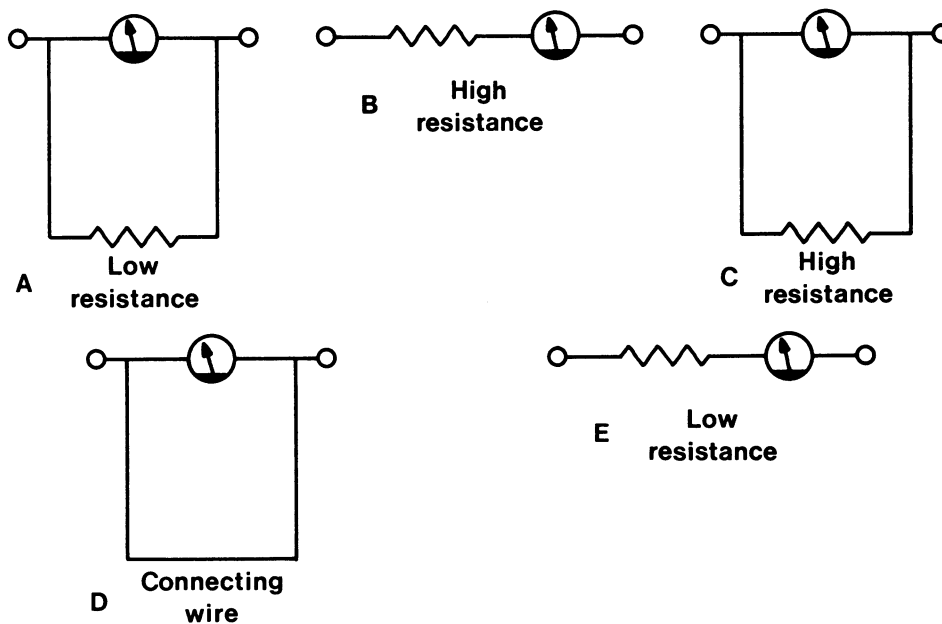

FIG. 3.18
14. Which of the arrangements shown in Fig. 3.18 would be used to convert a galvanometer into a voltmeter reading very high voltages?